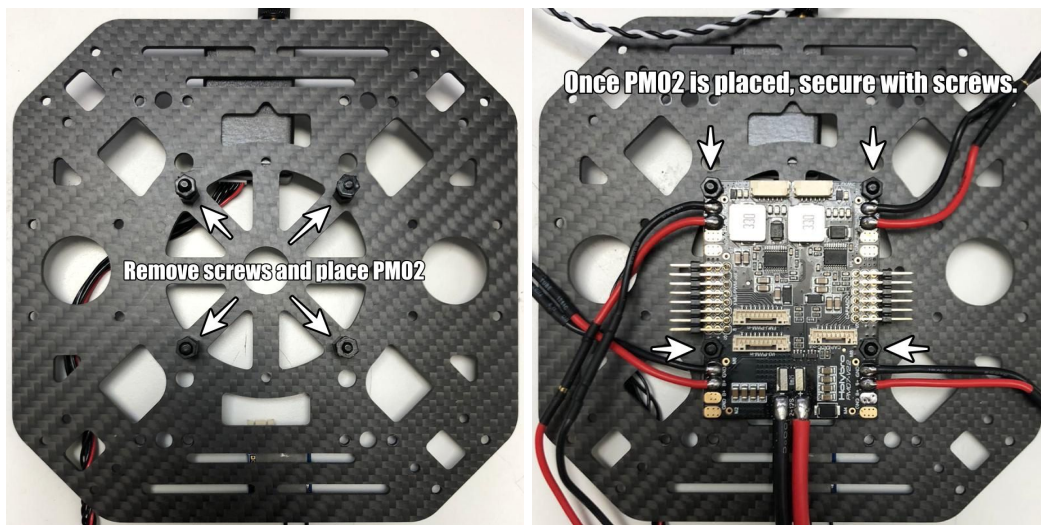

Figure 4 & 5
Step 3: Attach the power management PM02 to the bottom plate as shown in Figures 4 and 5.
Screw the landing gear with a vertical pole to the bottom plate. The lower plate has 4 holes (see Figure 4 arrows) use the M3X8 screws, a total of 8 pieces, 4 on each side.